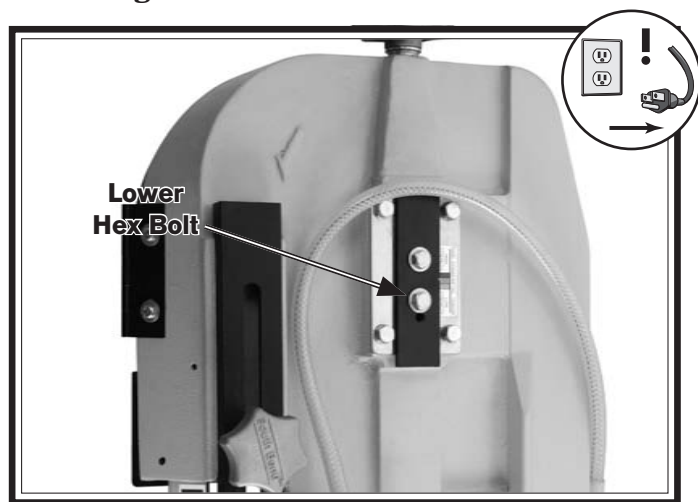

Figure 38. Blade tracking lower hex bolt.
3. Loosen, but do not remove the lower hex bolt in the blade wheel tilting mechanism shown in **Figure 38**.